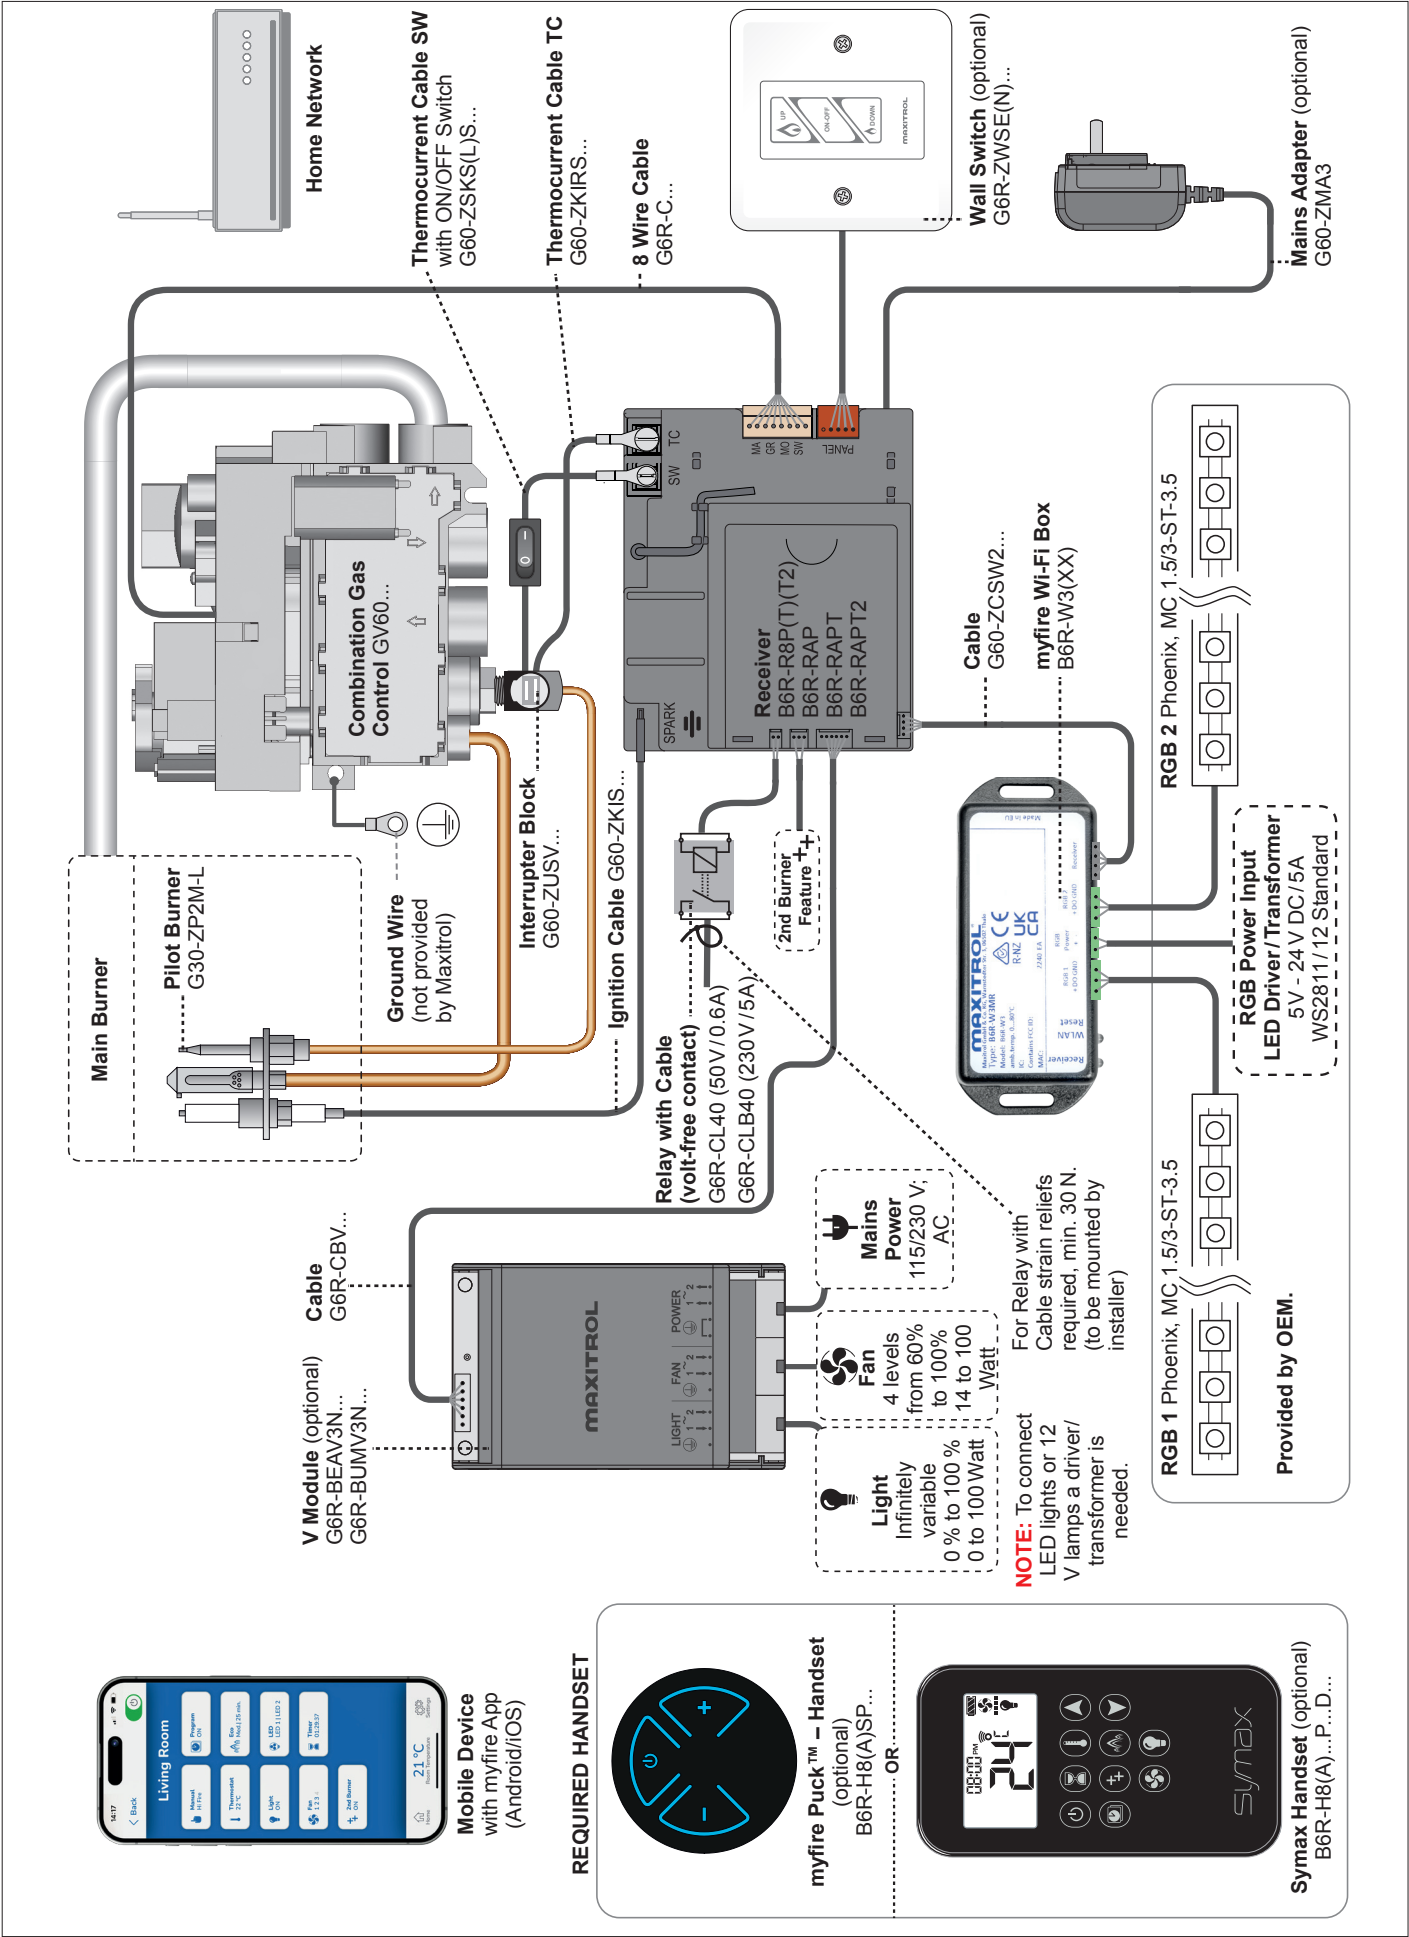

Figure 34
1. The myfire Wi-Fi Box must be wired to the receiver according to the myfire App setup diagram (see figure 34, page 28).